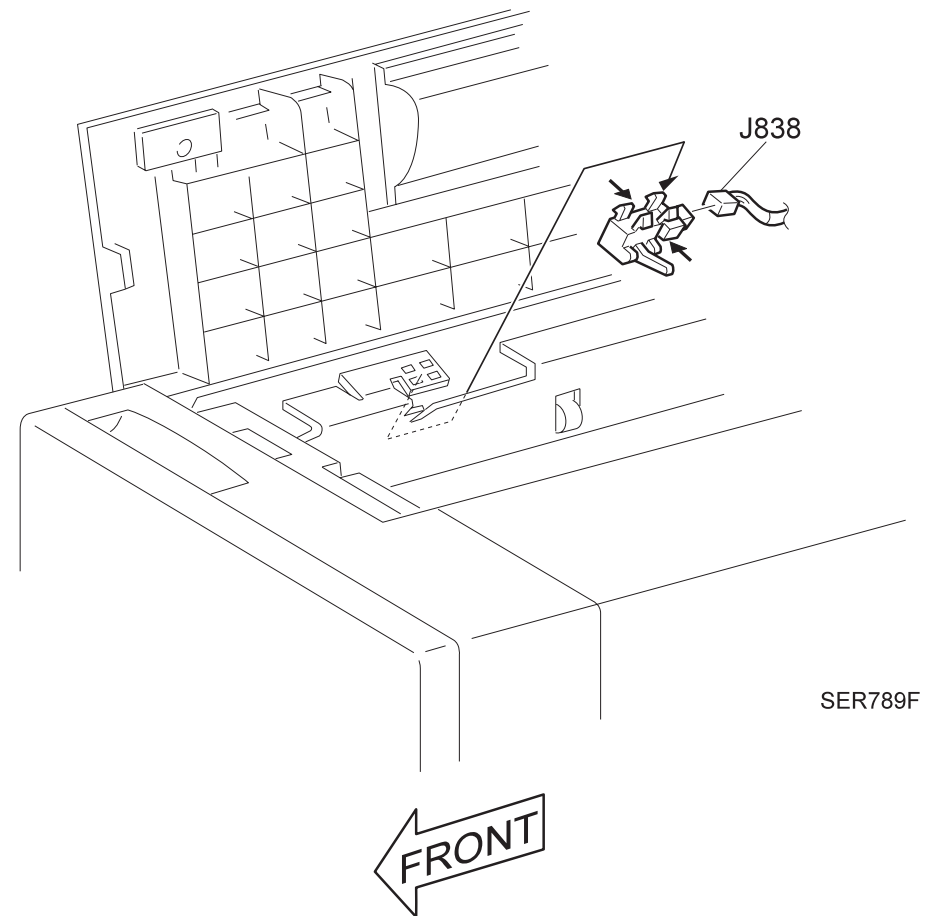

Figure 3-70. Compiler Tray Exit Sensor
2. Place the Compiler Tray Exit Sensor to the back of the Transport Chute as shown in the Figure 3-70.